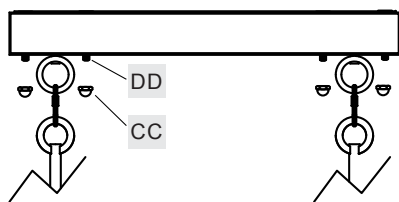

Figure 6
- A. Use the included wire connectors to make all the wire connections. Twist connectors until wires are tightly joined together. Wrap each connection with approved electrical tape and carefully stuff connected wires into outlet box. See Figure 6.